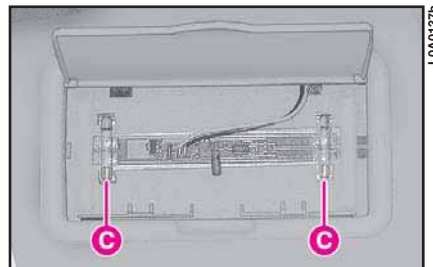

fig. 39
3) Remove the bulbs **C** (**fig. 39**) releasing them from the side contacts and replace them.